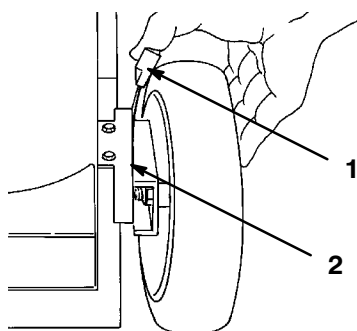

Figure 19
3. Set all four wheels in to the 2-3/4 in. (70 mm) cutting height setting (Fig. 19).
3. Squeeze the cutting height adjuster lever toward the wheel (Fig. 19) and move it to the desired setting.